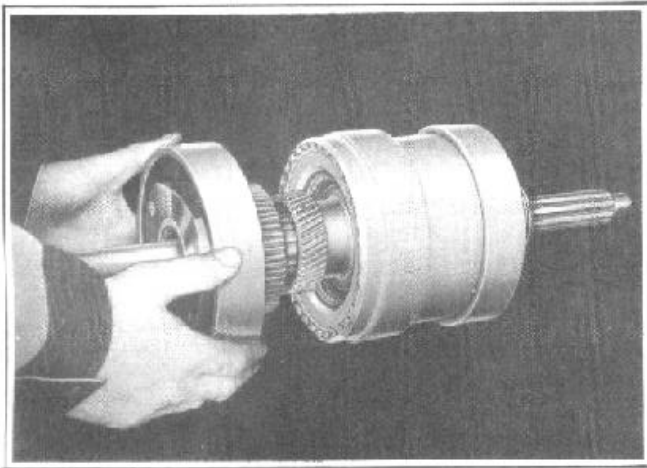

FIGURE 95
4. Remove the reverse drum and front planetary carrier assembly by sliding it forward and off the mainshaft, Figure 95.